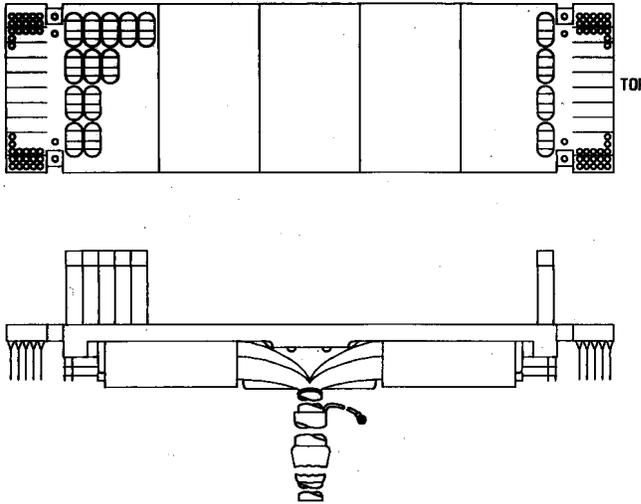
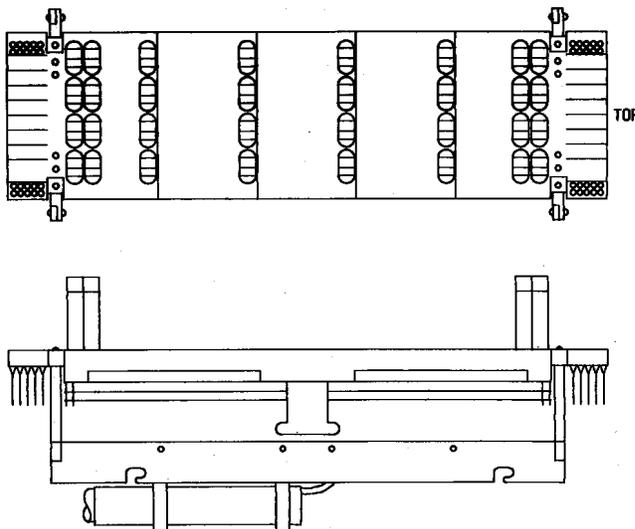

Fig. 20—302A1-100, B1-100, B2-100, or E1-100 Connector
Fig. 21—302A3-100, B3-100, C3-100, D3-100, or E3-100 Connector
2.13 **302A1-100, A3-100, B1-100, B2-100, B3-100, C3-100, D3-100, E1-100, and E3-100:** The 302-type connectors are illustrated in Fig. 20 and Fig. 21.
(a) **302A1-100:** The 302A1-100 connector (Fig. 20) consists of a protector mounting that is equipped with a light olive gray PVC sheath stub cable having 100 pairs of 24-American Wire Gauge (AWG) plastic insulated conductors. The connector can be obtained with a stub cable 30-, 50-, 80-, 100-, 150-, or 200-feet long as specified in the order. The stub cable is equipped with a gas plug. The connector is designed to be used in the ESS central
(b) **302A3-100:** The 302A3-100 connector (Fig. 21) is equipped with a hinged bracket and has gold-plated terminals. The connector is designed to be used in central office equipment.
(c) **302B1-100:** The 302B1-100 connector (Fig. 20) is equipped with 100 pairs of 22-AWG plastic insulated conductors. The connector is designed to be used in ESS central office protector frames.
(d) **302B2-100:** The 302B2-100 connector (Fig. 20) is equipped with a hinged bracket. The connector also contains 100 pairs of 22-AWG plastic insulated conductors and is used in central office equipment.
(e) **302B3-100:** The 302B3-100 connector (Fig. 21) is equipped with a hinged bracket and has gold-plated terminals. The connector is used in the ESS central office protector frames.
(f) **302C3-100:** The 302C3-100 connector (Fig. 21) has the 24-AWG stub cable mounted upward. The connector is available in standard stub lengths of 30, 50, 80, 100, 150, or 200 feet. The connector is equipped with a hinged bracket and has gold-plated terminals. The connector is used in the ESS central office protector frames.
(g) **302D3-100:** The 302D3 connector (Fig. 21) is equipped with a hinged bracket and has gold-plated terminals. The connector is designed for use in the ESS central office protector frames.
(h) **302E1-100:** The 302E1-100 connector (Fig. 20) is not equipped with stub cables. The connector is used in modular protector frames.
(i) **302E3-100:** The 302E3-100 connector (Fig. 21) is equipped with a gold-plated terminal. The connector is used in double-sided protector frames.